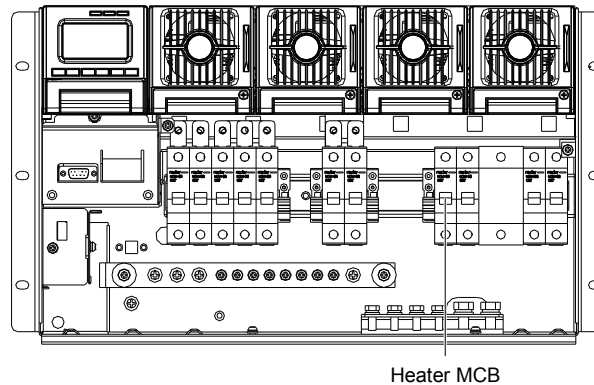

Figure 5-9 Position of heater MCB
The heater position is shown in Figure 5-9. The replacing procedures are as follows.
Step 1: Switch off the heater MCB, as shown in Figure 5-9.
Step1: Switch off the heater MCB, as shown in Figure 5-9.